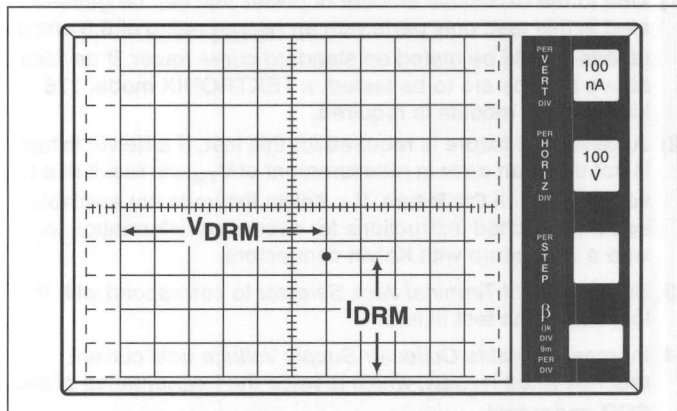

Figure 19.3 I_{DRM} is equal to 350nA at V_{DRM} equal to 600
2. Set *Variable Collector Supply* to the rated V_{DRM} of the device and observe the dot on CRT. Read across horizontally from the dot to the vertical current scale. This measured value will be the leakage current. (See Figure 19.3.)